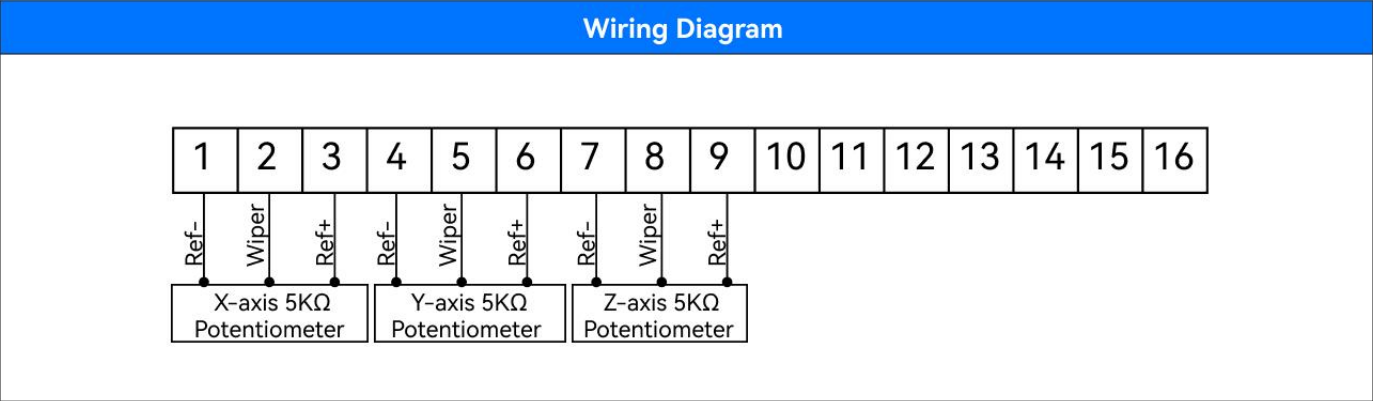

Figure1.4
1. Used for wiring the WLF-10H handle, as shown in Figure 1.4.